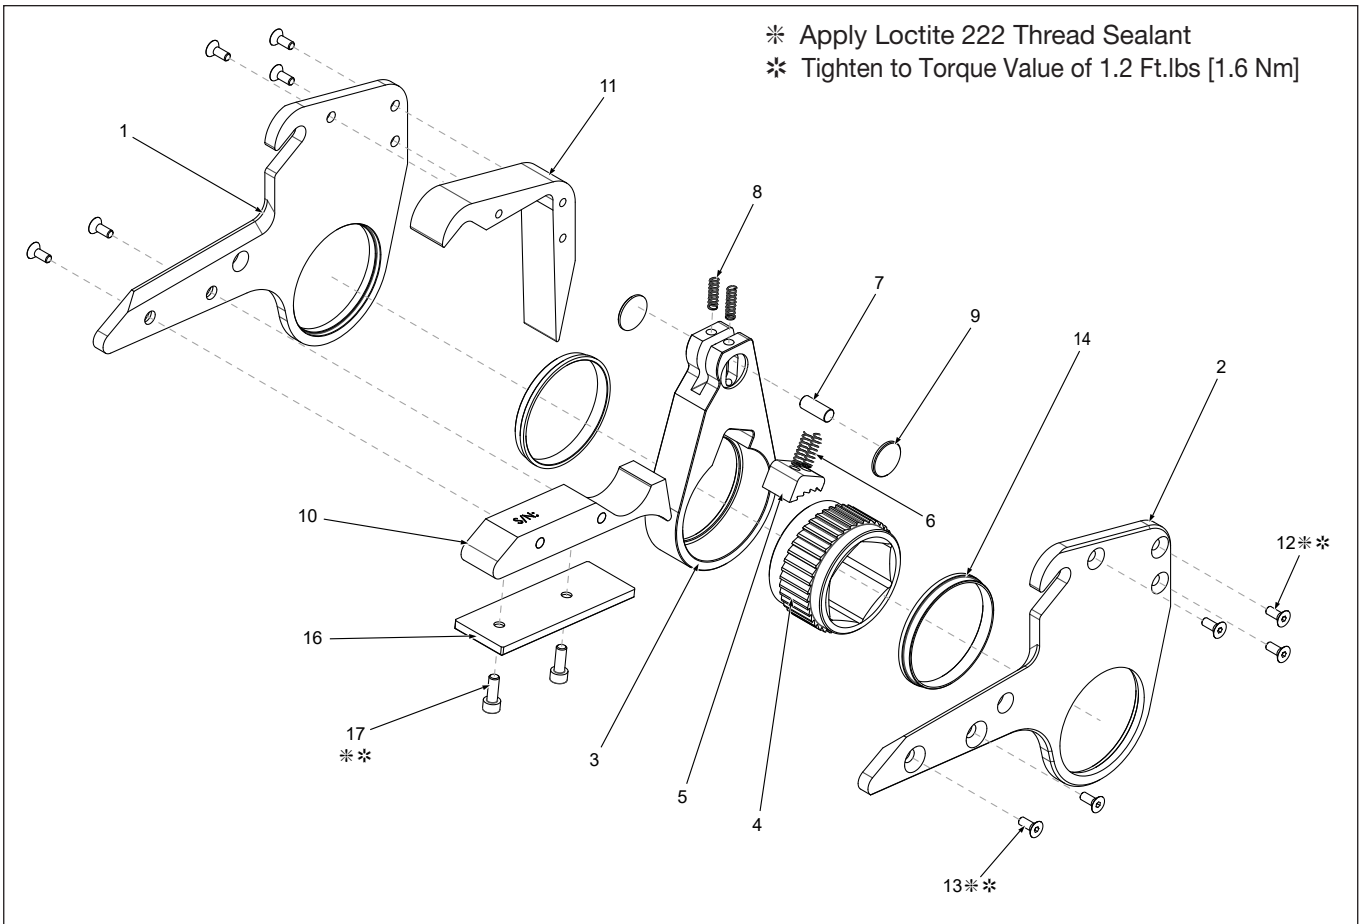

Figure 20: Exploded HMT HLP Cassette
7.3.3 HMT HLP Cassette Assembly - Disassembly and Reassembly (Fig. 20/ 21)
- With the HLP cassette laid down on its side, remove the three front spacer screws (12) and two reaction block screws (13) followed by the one of HLP cassette side plate (1 or 2).
- Separate the ratchet bush (14). The drive plate assembly is free to be removed from the cassette. Carefully remove the two compression springs (8) from the drive plate and set to one side.
- Remove the ratchet (4), pawl (5) and pawl springs (6).
- Disengage the two drive pin retainers (9), and slide out the drive pin (7) from the drive plate (3).
- On the remaining plate remove the three front spacer screws (12) and two reaction block screws (13) separate front spacer (11) and reaction block (10) from the remaining HLP cassette side plate (1 or 2).
- Disassemble the reaction block by removing the two socket head cap screws (17), and remove the wear plate (16) from reaction block spacer (10).
- Dry all components. Apply a thin coat of molybdenum disulphide grease in the areas shown in Figure 20.